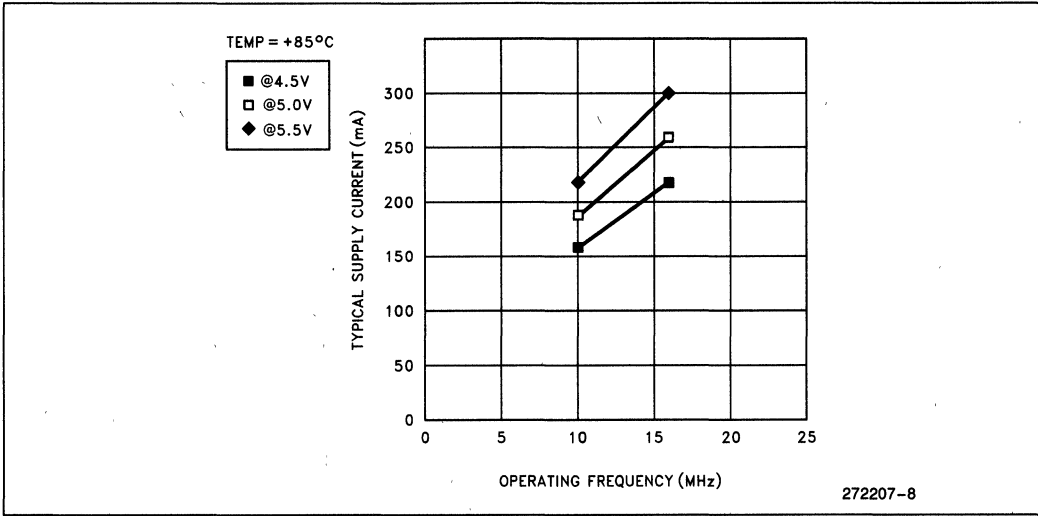

Figure 8. Typical Current vs Frequency (Hot Temp)
For a given output current (I_{OL}) the curve in Figure 8 shows the worst case output low voltage (V_{OL}). Figure 9 shows the typical capacitive derating curve for the 80960SB measured from 1.5V on the system clock (CLK) to 0.8V on the falling edge and 2.0V on the rising edge of the bus address/data (AD) signals.